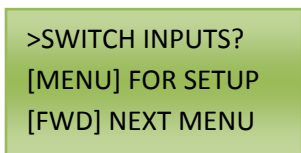

Figure 9.1
1. Press the MENU on the keypad and the screen will say >SWITCH INPUTS? See Figure 9.1 for visual example. If still in the Setup Scenes menu, just press BACK once and FWD once, to get to the >SWITCH INPUTS? Press ENTER on the keypad to setup Switch Inputs.